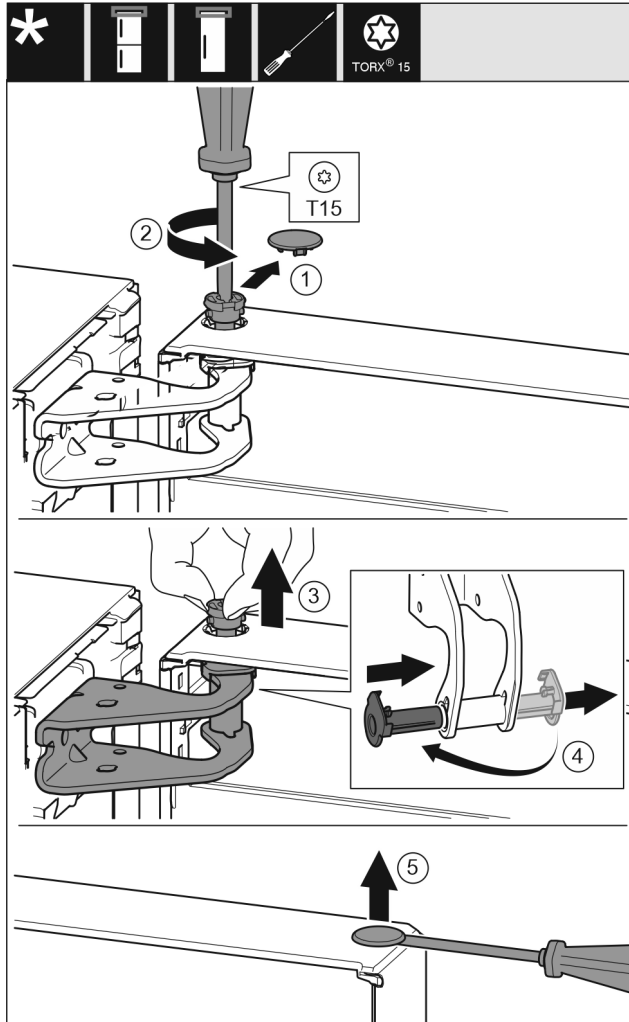

Fig. 8
- ▶ Carefully remove the protective cover. *Fig. 8 (1)*
- ▶ Loosen the bolts slightly with a T15 screwdriver. *Fig. 8 (2)*
- ▶ Hold the door and remove the bolts with your fingers. *Fig. 8 (3)*
- ▶ Pull the bearing bush out of the guide. Insert from the other side and latch into place. *Fig. 8 (4)*
- ▶ Carefully lift the plugs out of the door bearing bush with a slotted screwdriver and remove them. *Fig. 8 (5)*